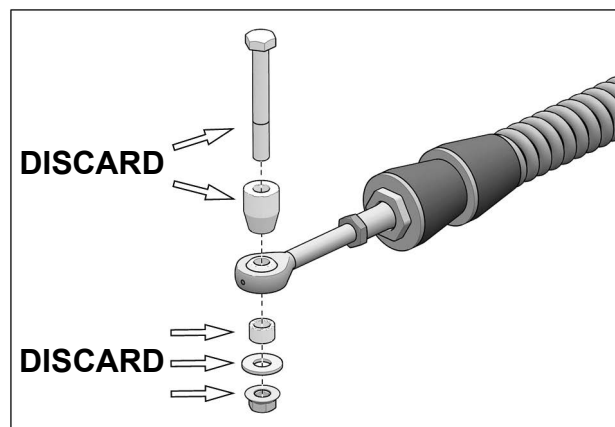

Fig. 3
- Remove and discard bolts, washers, bushings, and nuts from rear stabilizing rod ends as shown in Fig. 3